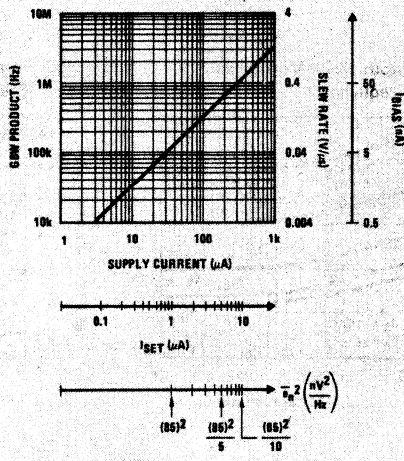

FIGURE 3. LM146 Typical Characteristics
**Isolation Between Amplifiers:** The LM146 die is isothermally laid out such that crosstalk between all 4 amplifiers is in excess of -105 dB (DC). Optimum isolation (better than -110 dB) occurs between amplifiers A and D, B and C; that is, if amplifier A dissipates power on its output stage, amplifier D is the one which will be affected the least, and vice versa. Same argument holds for amplifiers B and C.
**LM146 Typical Performance Summary:** The LM146 typical behavior is shown in Figure 3. The device is fully predictable. As the set current, ISET, increases, the speed, the bias current, and the supply current increase while the noise power decreases proportionally and the VOS remains constant. The usable GBW range of the op amp is 10 kHz to 3.5-4 MHz.